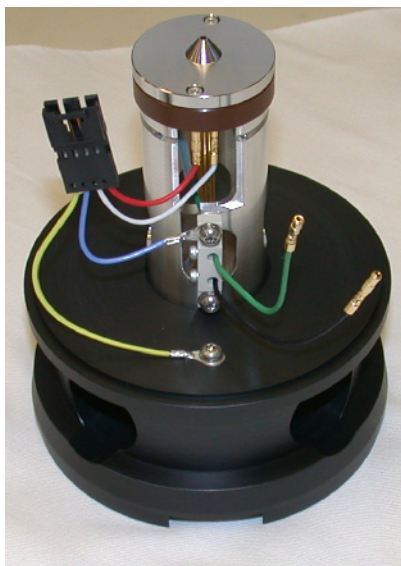

Figure 70 Ion optics assembly
- 1 Place the **ion optics assembly** under a fume hood on a clean lint-free cloth (Figure 70).
- f Connect all previously disconnected wires (see **Figure 70**).